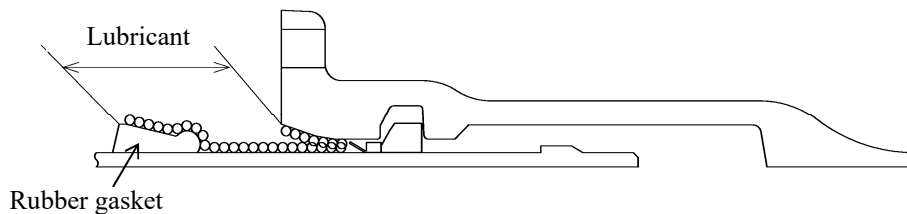

Figure 15 Application of lubricant
- (1) Apply lubricant to the outer surface of the rubber gasket, outer surface of the spigot and inner surface of the socket. Figure 15 shows the range for lubricant application.